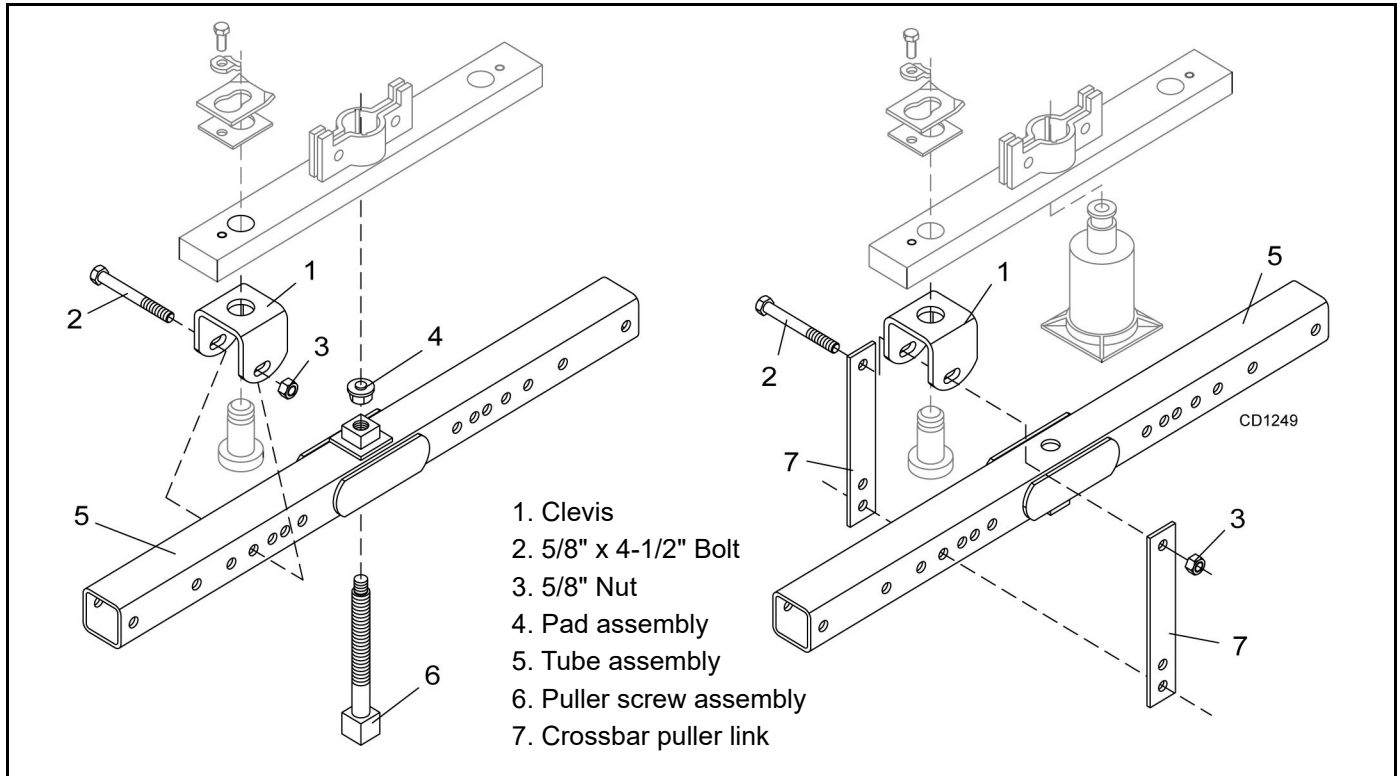

Figure 25. Crossbar Puller
For crossbar removal, it is necessary to gain access to bottom side of cutter. Raise cutter and securely block up. You may use either puller screw (6) or a small hydraulic jack to remove crossbar. See Figure 25.